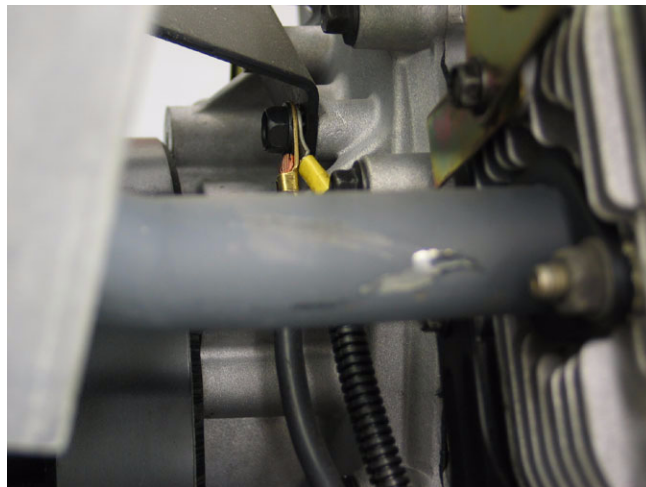

Figure 1.14
1.14. As with all electrical systems, do not neglect the basics: clean connections and good ground paths. See Figure 1.14.